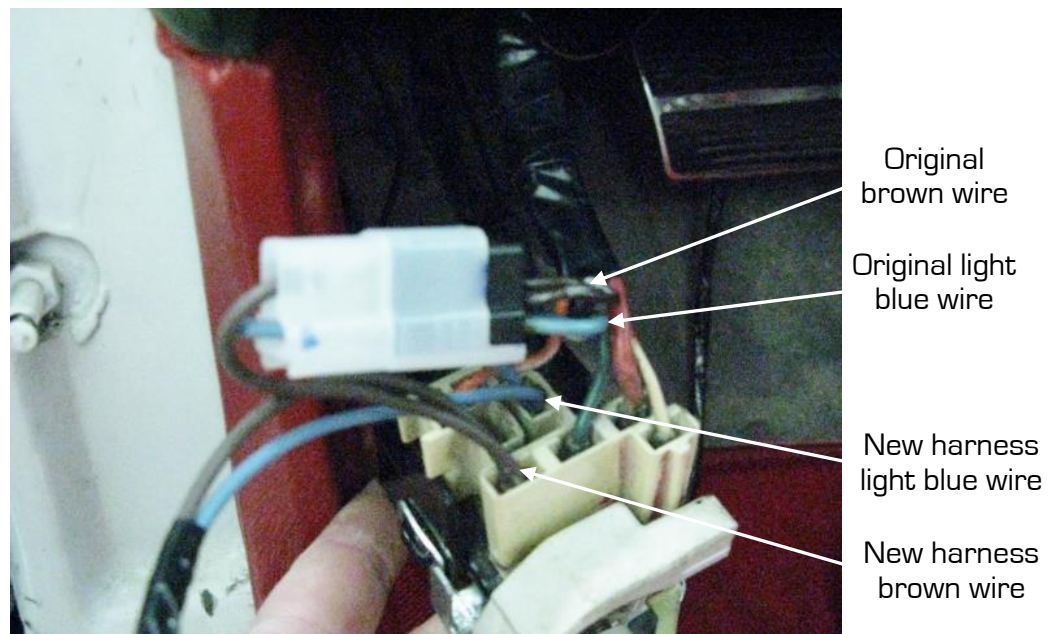

Figure 34 - Plug-In Headlight Connector
33. Plug this connector into the clear two-terminal connector on the new harness (Figure 34). Make sure that the wire colors correspond with each other (light blue to light blue, brown to brown).